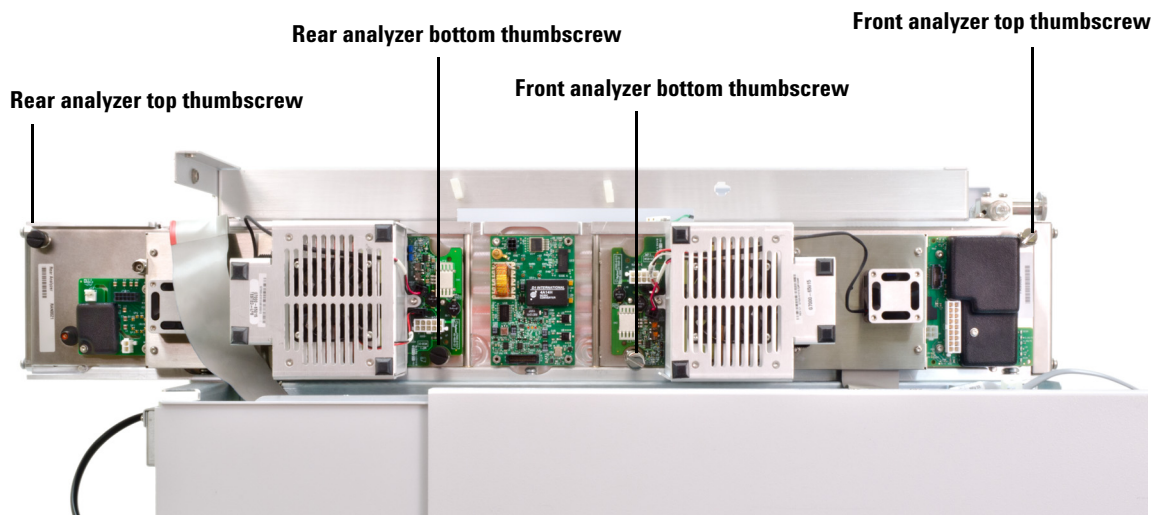

Figure 17 Side plate thumbscrews
- 7 Finger-tighten the side plate thumbscrews for both analyzers. (See Figure 17).